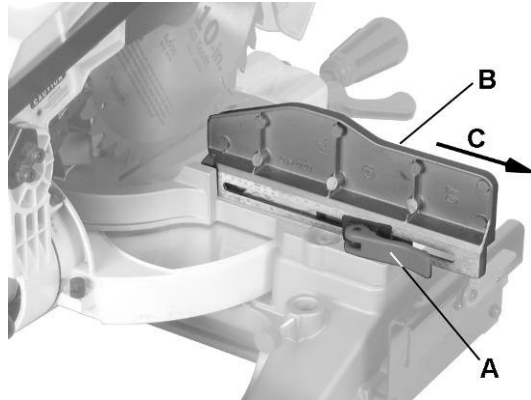

Figure 16
To adjust the sliding fence (refer to Figure 16):
1. Unlock the *fence cam locking lever* (A) (shown locked in Figure 16) by pushing it toward the rear of the machine.
2. Extend the *fence* (B) by sliding it out (C) to ensure that the blade will clear the fence for degree of the bevel cut selected. Lock the *fence cam locking lever* (A) as shown.